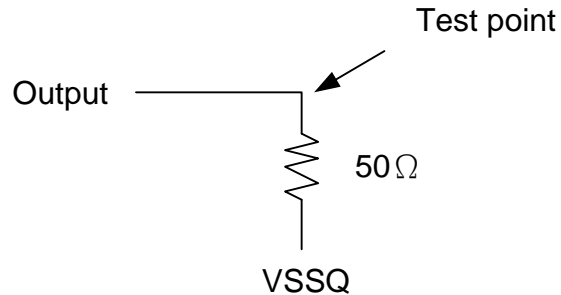

Figure 3: Pullup slew rate test load
a. Pullup slew rate is characterized under the test conditions as shown in Figure 3.